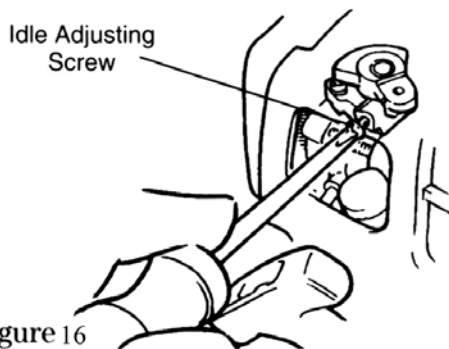

Figure 16
2. If the cutting attachment rotates at engine idle, reduce idle speed by turning the idle adjusting screw counter clockwise as necessary. See Figure 16